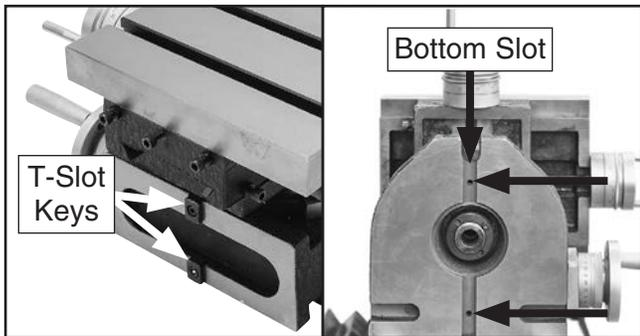

Figure 10. T-slot keys and mounting locations.
2. Move (2) T-slot keys and (2) cap screws from side slots to bottom slot (see **Figure 10**).